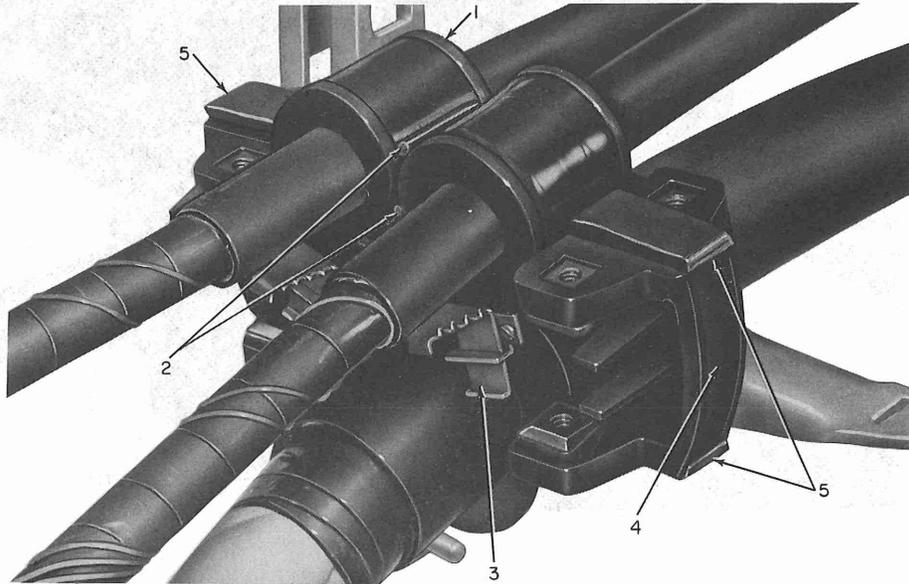

Fig. 29—Placed Midsection
4.03 The procedures for installing the triple entrance end plate are outlined in Fig. 29 through 32.